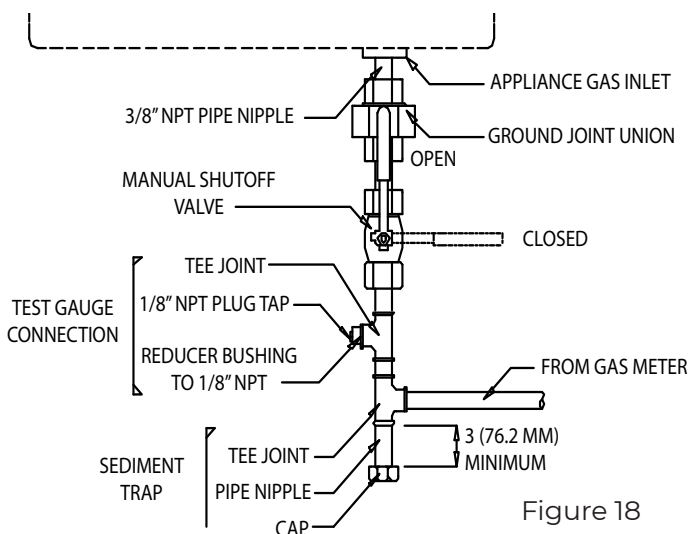

Figure 18
4. The supply system must include a manual shut off valve and connection in the line, so the heater can be disconnected for servicing. (See Figure 18).